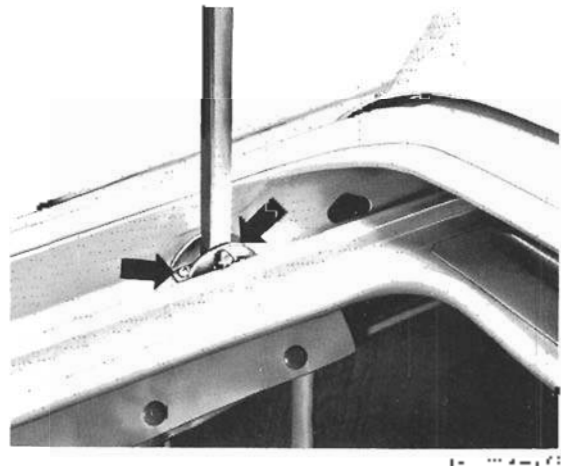

Fig. 7-32. Screws (arrows) that hold the roof supports.
3. Remove the two Phillips head screws indicated in Fig. 7-32 from both roof support retaining plates. Then, while holding the hinges and supports to avoid damaging the paint, carefully lift off the roof.